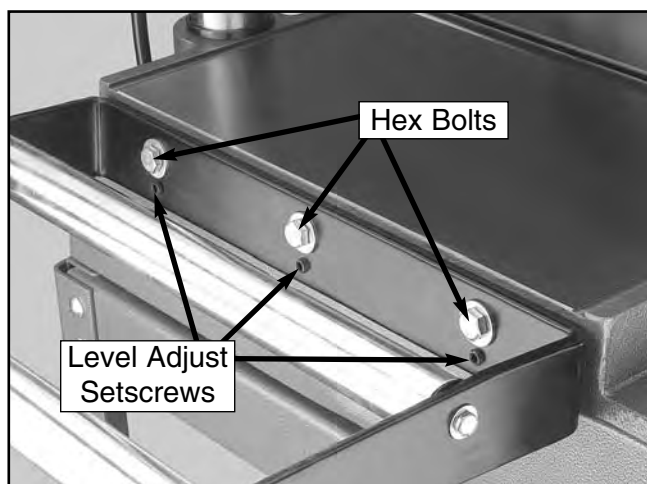

Figure 11. Extension rollers.
4. Finger-tighten the hardware removed in **step 2** to secure the extension rails to the planer as shown in **Figure 11**.
7. Adjust the leveling setscrews shown in **Figure 11** if the table and extension rollers are not flush.